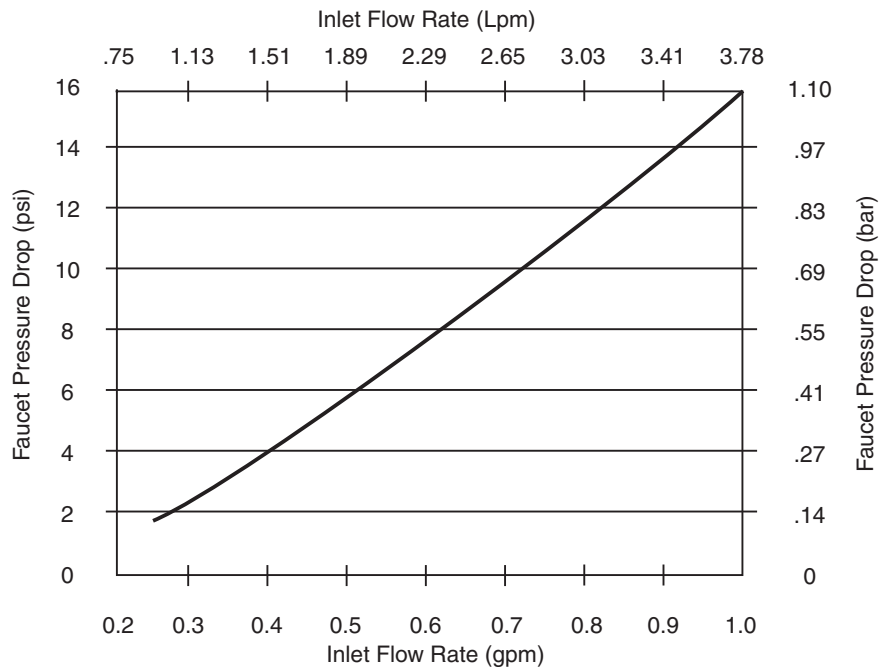

Figure 8
2. Using the estimated flow rate found in step 1 above, find the pressure drop through the tubing with Figure 8.
A: According to Figure 8, the faucet pressure drop will be 3.8 psi (0.26 bar).
Use Figure 8 and the Inlet Flow Rate of 0.49 gpm to estimate the Faucet Pressure Drop = **4.5 psi**